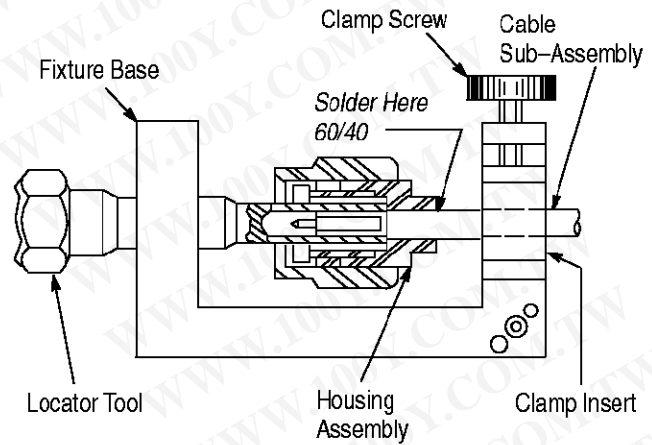

Figure 5
(Figure 5)
2. Place loose assembly in fixture base as shown in Figure 5.